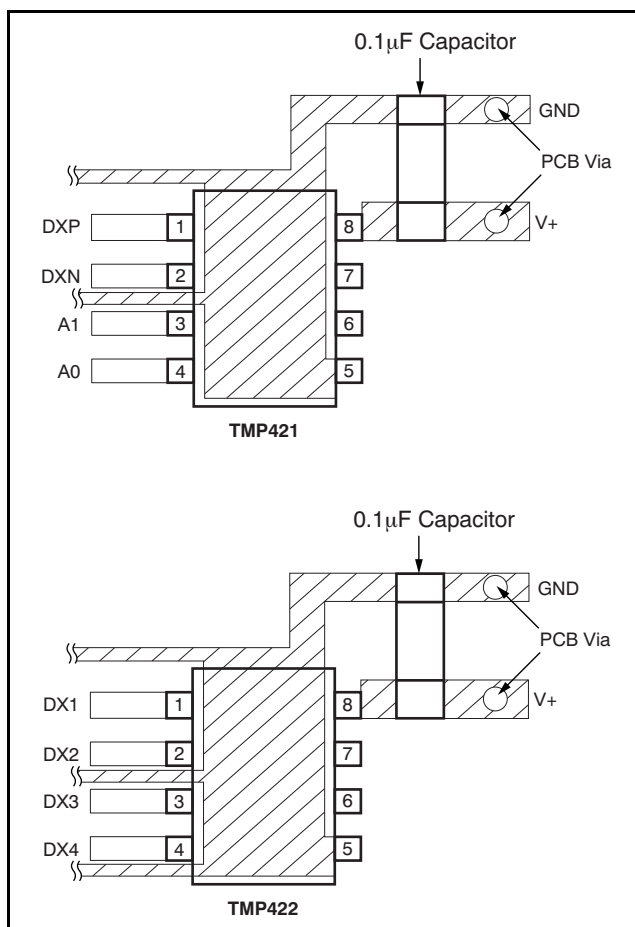

Figure 20. Suggested Bypass Capacitor Placement and Trace Shielding
4. Use a $0.1\mu\text{F}$ local bypass capacitor directly between the $V+$ and GND of the TMP421/22, as shown in Figure 20. Minimize filter capacitance between DXP and DXN to 1000pF or less for optimum measurement performance. This capacitance includes any cable capacitance between the remote temperature sensor and TMP421/22.